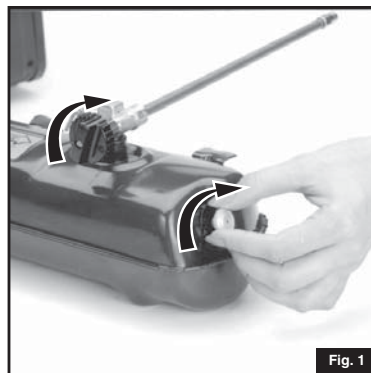

Fig. 1
- Close FUEL VALVE firmly. (Fig. 1)
- Close PUMP KNOB firmly. (Fig. 1)